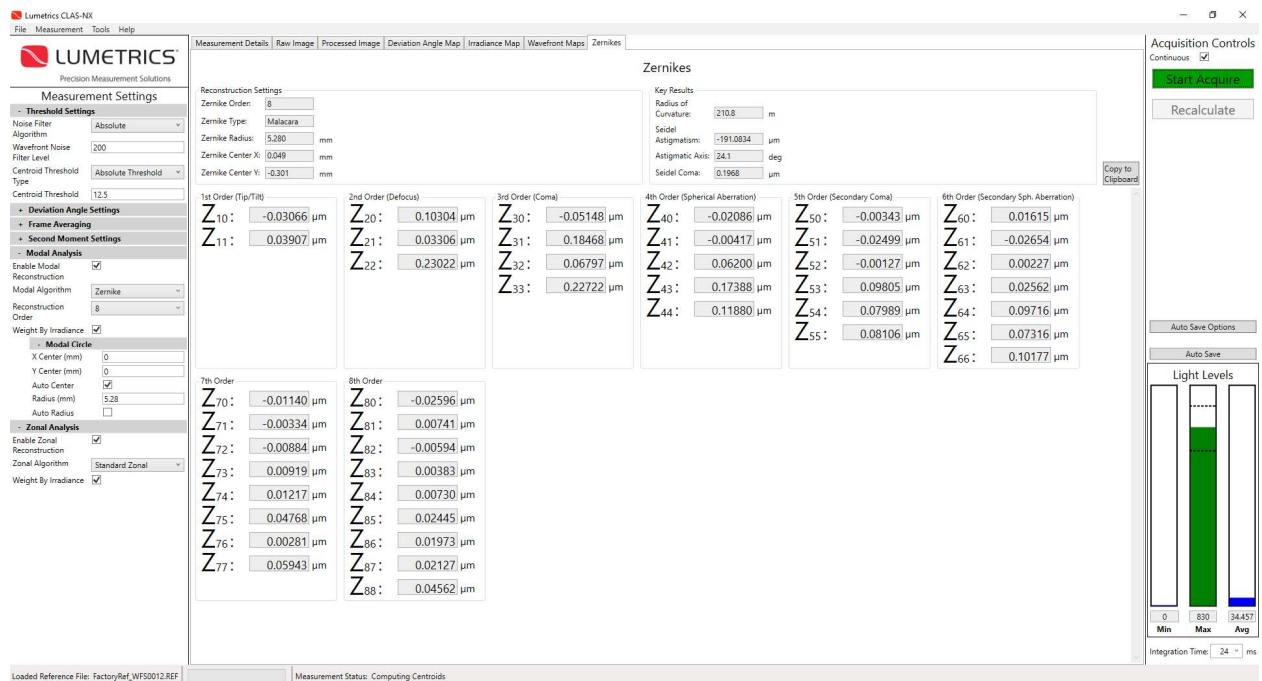

Figure 43: Zernike tab showing a long residual radius of curvature, low Z10 and Z11 results.
4. Open the Zernike tab, see Figure 43.
5. Adjust the Z position of the collimating lens until the key result, residual radius of curvature in the upper right section of the Zernike tab, is maximized. See Figure 43. It should be greater than 50 meters.